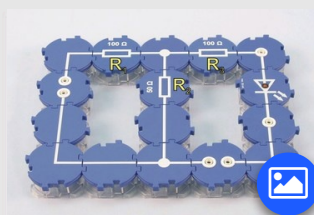
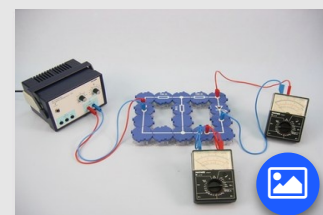

Fig. 1
Fig. 2
- Set up the experiment according to Fig. 1 and Fig. 2. Set the measuring ranges 10 V- and 30 mA-.